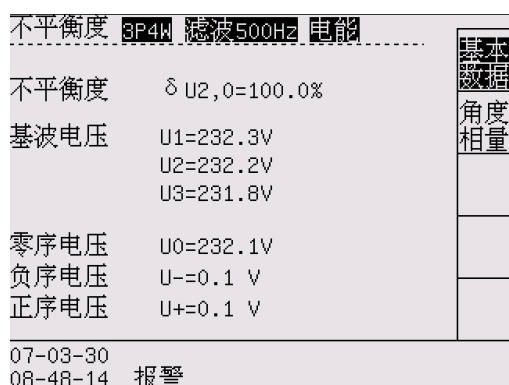

Figure 8-1 Unbalance factor
3.1 Unbalance factor display refers to screen. (Figure 8-1)
Basic data---unbalance basic data; (Figure 8-1)
3.2 Unbalance factor basic data screen. (Figure 8-1)